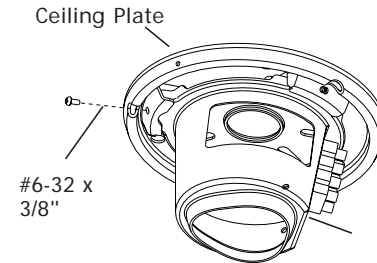

Figure 4b - Temporary installation of one #6-32 x 3/8" screw.
3. Rotate the hanger bracket until the three tabs on the hanger bracket are fully engaged in the three slots in the ceiling plate. See Figure 4b. Being careful to not allow the hanger bracket to rotate, temporarily install one of
the three #6-32 x 3/8" screws through the hole in the ceiling plate and into the threaded hole in the hanger bracket to prevent the hanger bracket from rotating. See figure 4b.